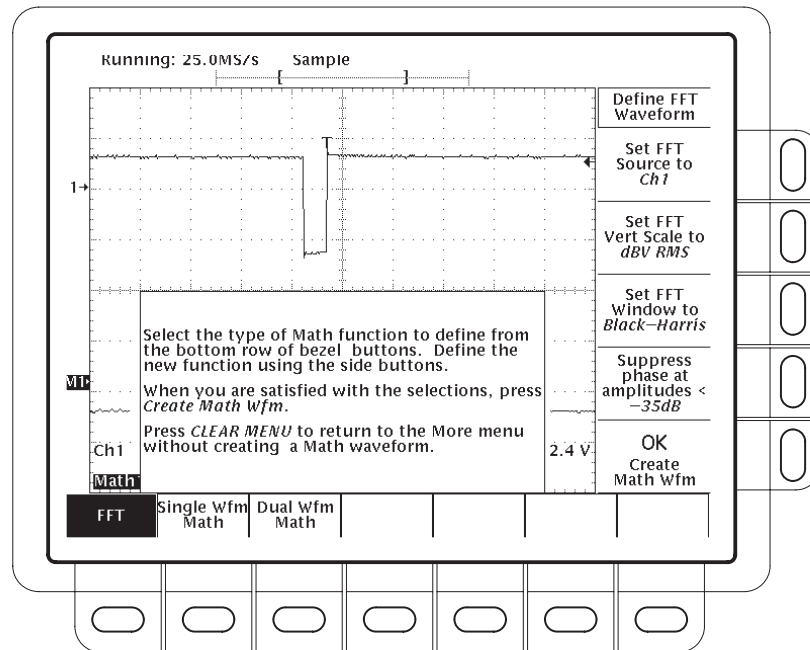

Figure 3-16: Define FFT Waveform Menu
5. If the selected math waveform is not FFT, press **Change Math Definition** (side) → **FFT** (main). See Figure 3-16.